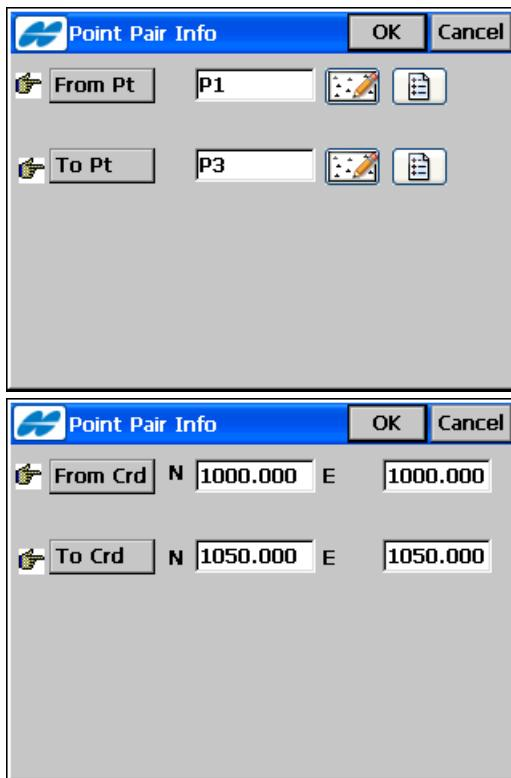

Figure 11-65. Point Pair Information
- **Add** – press to enter pairs of points or coordinates in the **Point Pair Info** screen (Figure 11-65 on page 11-55).
The **Point Pair Info** screen (Figure 11-65) selects the pairs of points or coordinates to obtain transformation parameters.